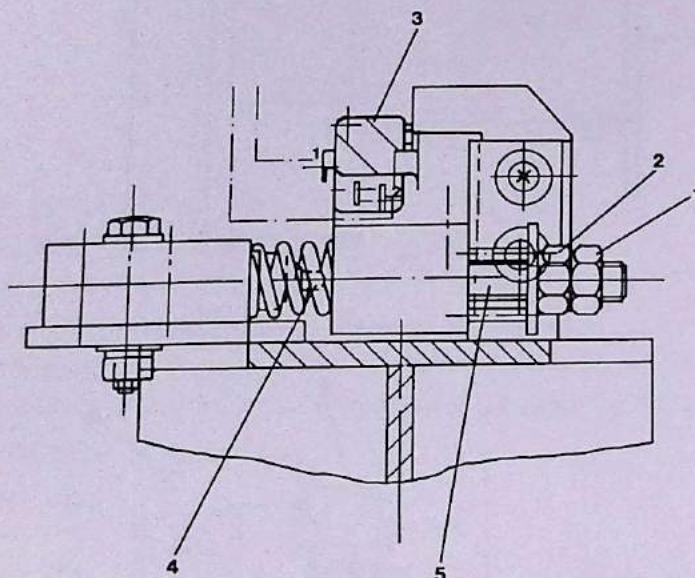

Fig. 607
- (h) If necessary, adjust the valve spring adjuster (2) and safety with locknut (1).
- (6) Mechanical safety backup valve (Fig. 607)
- (a) Disconnect the electrical safety backup switch (3)
- (b) Assemble a rope as in (5) (d)
- (c) Slacken locknut (1) and screw out the mechanical backup valve adjuster (2) until the spring is not under tension